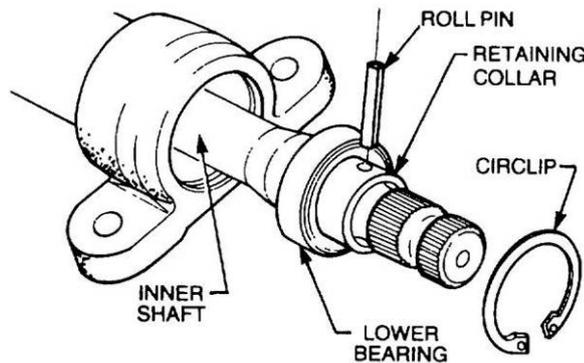

Figure 140 Removal of the Inner Shaft and Bearing
- a. Remove the circlip from the lower end of the steering column and remove the inner shaft complete with the bearing from the upper end of the column (Figure 140).